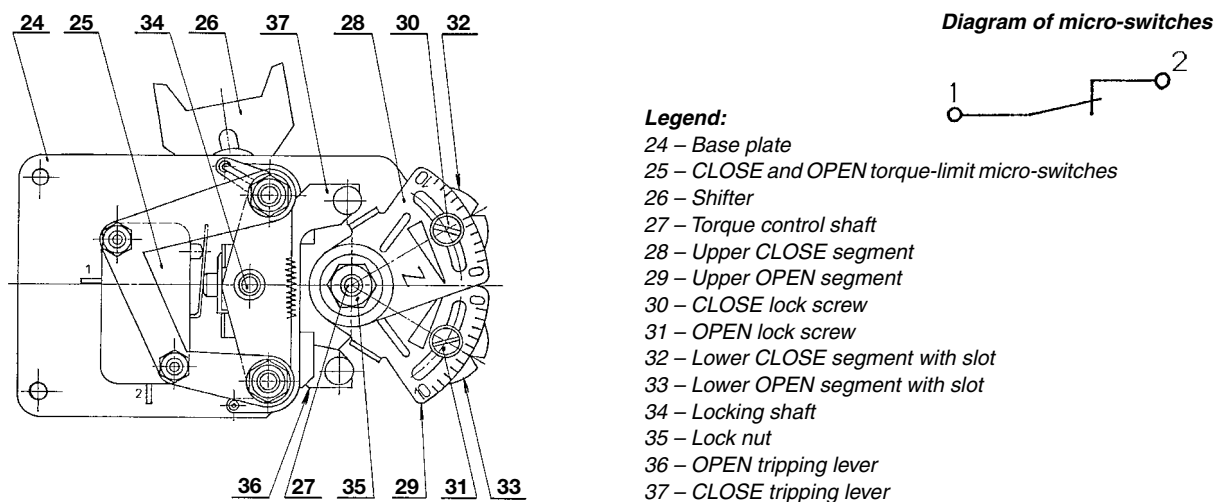

Fig. 3 – **Torque-limit switching unit**
a) Torque-limit switching unit (Fig. 3)
The tripping torque different from that to which the unit was set in the factory is adjusted as follows: Loosen the lock nut 35 (Fig. 3) and particular lock screw 30 (for direction CLOSE) or 31 (for direction OPEN). Insert a screwdriver into the slot in the upper segment 28 or 29 and rotate the segment until the slot in the segment 32 or 33 tallies with the respective scale division line. This point is determined in such a way that the difference between the maximum and minimum adjustable torques in Nm is divided by the number of the scale divisions between the marks for the maximum and minimum torques. The figure thus obtained indicates value in Nm of the tripping torque corresponding to one scale division. Interpolation is then used for determining the scale division line with which the slot in the segment 32 or 33 should tally.